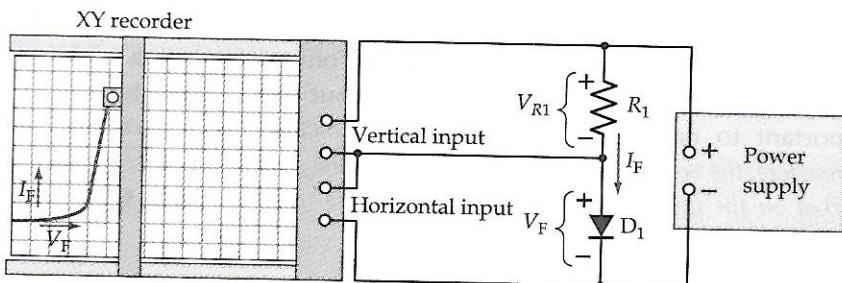

Figure 2-24 An XY recorder can be used for directly plotting diode characteristics.
Figure 2-24 shows a method of using an *XY recorder* for drawing the forward characteristics of a diode. The resistor voltage (V_{R1}) is directly proportional to the diode forward current (I_F). So V_{R1} is applied to the vertical input terminals of the XY recorder, as illustrated. The diode forward voltage (V_F) goes to the horizontal input terminals. When the power supply voltage is slowly increased from zero, the diode forward characteristic is traced out by the pen on the XY recorder.
If R_1 in Fig. 2-24 is a $1\text{ k}\Omega$ resistor, there is a 1 V drop across it for every 1 mA of diode current. Therefore, with the vertical scale of the XY recorder set to 1 V/cm , the (vertical) current coordinate of the graph is 1 mA/cm . A convenient scale for the (horizontal) voltage coordinate is 0.1 V/cm . Diode characteristics can also be investigated by means of a *curve tracer*, and by computer graphic analysis software.
The arrangement shown in Fig. 2-24 is to be used to plot the characteristics of a 1N914 diode. Select a suitable resistor for R_1 , and determine appropriate V/cm scales for the XY recorder.
- 2-8.2 An XY recorder is used (as in Fig. 2-24) to plot silicon diode forward characteristics to approximately fill a 10 cm by 10 cm square. If the maximum forward current is to be 100 mA, select suitable V/cm scales for the recorder and a suitable resistance for R_1 .